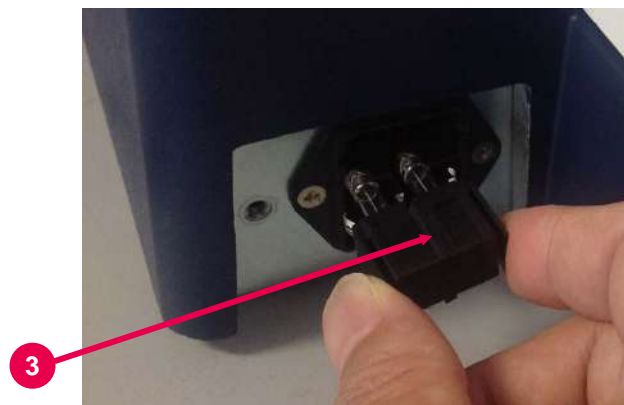

Fig. 7-16 Removing Fuse Holder
- (3) Remove the blown fuse and replace with a new one (See Fig. 7-16 (3)).